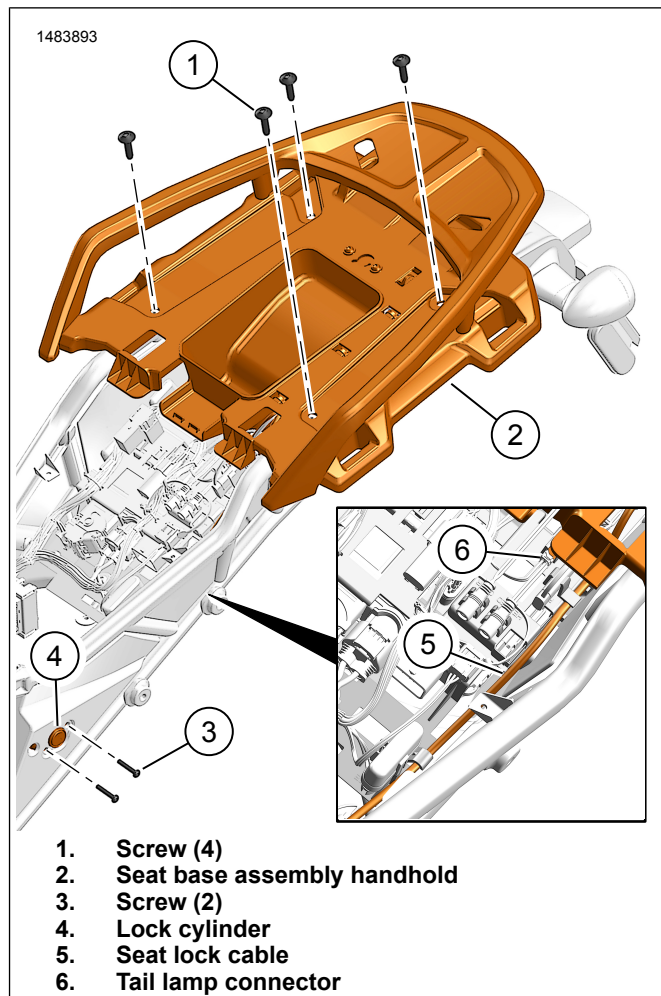
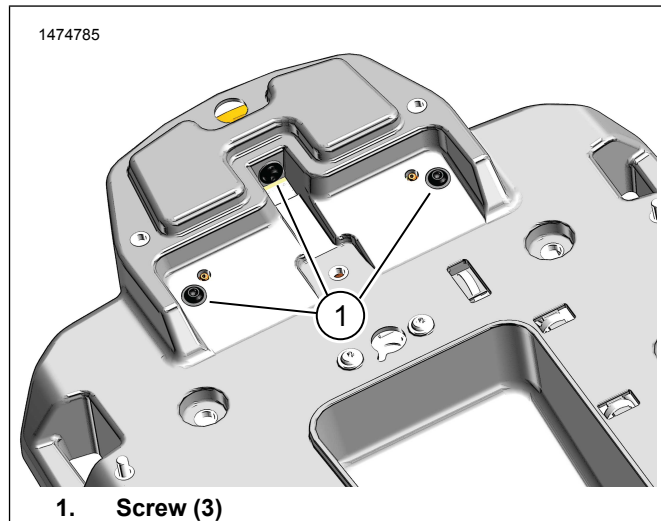
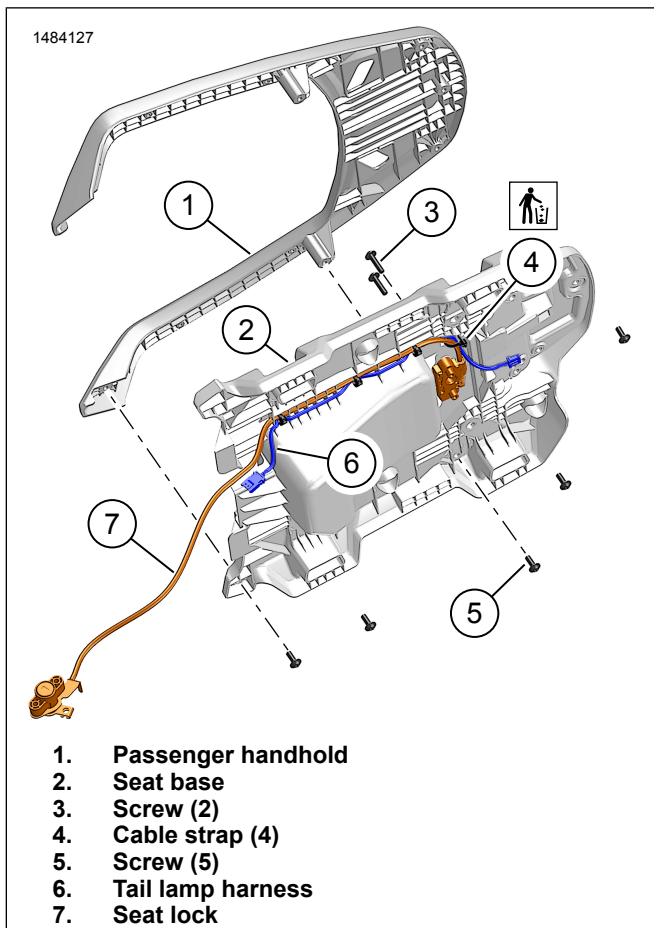

Figure 1. Seat Base Assembly
Figure 2. Tail Lamp
Figure 3. Disassembling Passenger Handhold Assembly SEAT BASE HANDHOLD WITH TOP CASE MOUNTING PLATE (IF INSTALLED)
2. See Figure 1. Remove passenger handhold assembly.
- a. Remove screws (1).
- b. Remove screws (3).
- c. Disconnect tail lamp connector (6).
3. See Figure 2. Remove tail lamp.
4. See Figure 3. Remove passenger handhold.
- a. Remove screws (5).
- b. Remove Original Equipment (OE) passenger handhold (1).
1. See Figure 3. Install passenger handhold.
- a. Install **new** passenger handhold (1).
- b. Install screws (5). Tighten.
2. See Figure 2. Install tail lamp.
- b. Install screws (1). Tighten.
3. See Figure 1. Install passenger handhold assembly.
- a. Install lock cylinder (4).
- b. Install screws (3). Tighten.